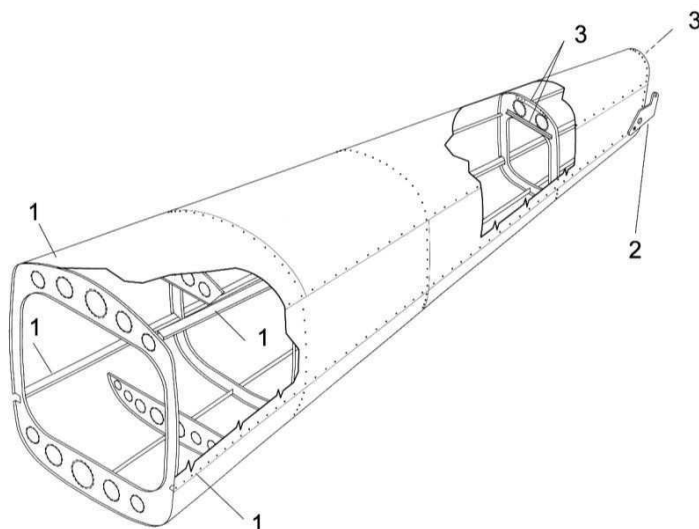

Figure 4-11 Tailcone
The aft part of the fuselage (fig. 4-11) is constructed of an aluminum alloy semi-monocoque structure. Attachment to cabin truss is at the forward fittings of four stringers that run the aft fuselage length (1). Two flanges are located at the aft end of the tail section to support the horizontal tail assembly (2) and the vertical tail forward and aft spars.